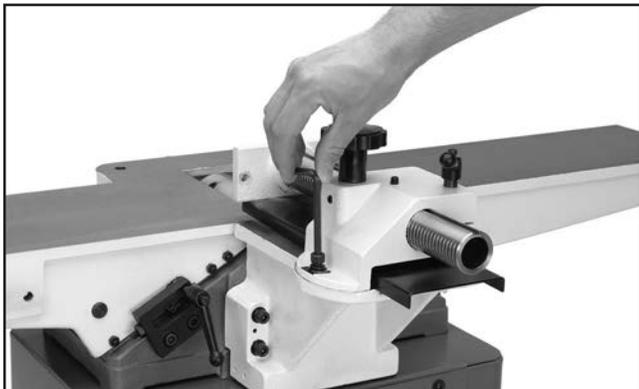

Figure 19. Fence carriage assembly.
1. Use the M8-1.25 x 20 cap screws, lock washers, and flat washers to secure the fence carriage assembly to the carriage mounting bracket (see **Figure 19**).